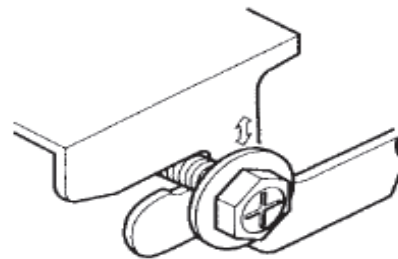

Figure 1-2-4
- Suspension bolt stays inside the cap of indoor unit .Never remove the cap. Lift the unit and slide forward unit the dent. (Refer to Figure 1-2-4)